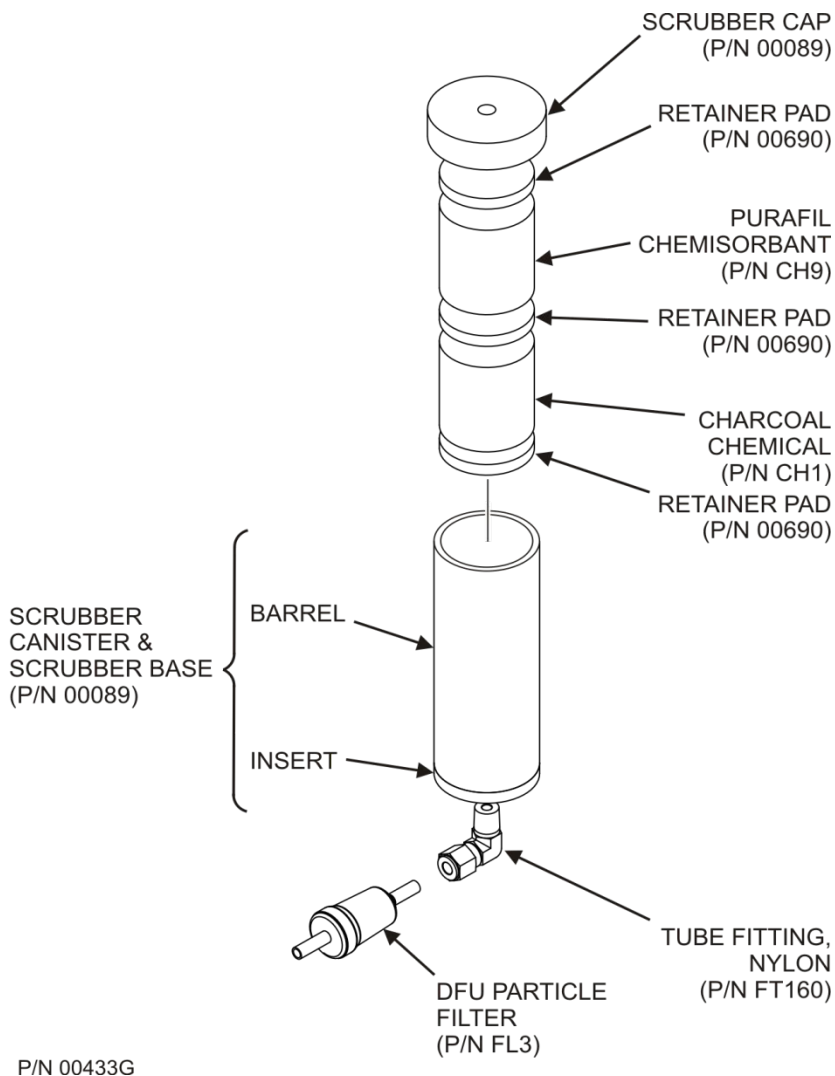

Figure 5-8. Zero Air Scrubber Assembly
1. Locate the scrubber on the outside rear panel; Figure 5-8 shows the exploded assembly.
- Use three, white retainer pads to separate the chemicals as shown in Figure 5-8.
9. If necessary, replace the filter (DFU, Figure 5-8) with a new unit and discard the old. (The bottom retainer pad should catch most of the dust; the filter should not be visibly dirty on the inside).